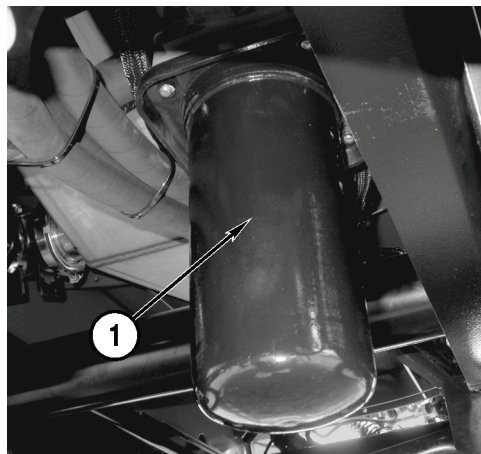

Figure 5-38
1. Remove the four mounting bolts from the filter head and lower the filter canister (**Figure 5-38, 1**).